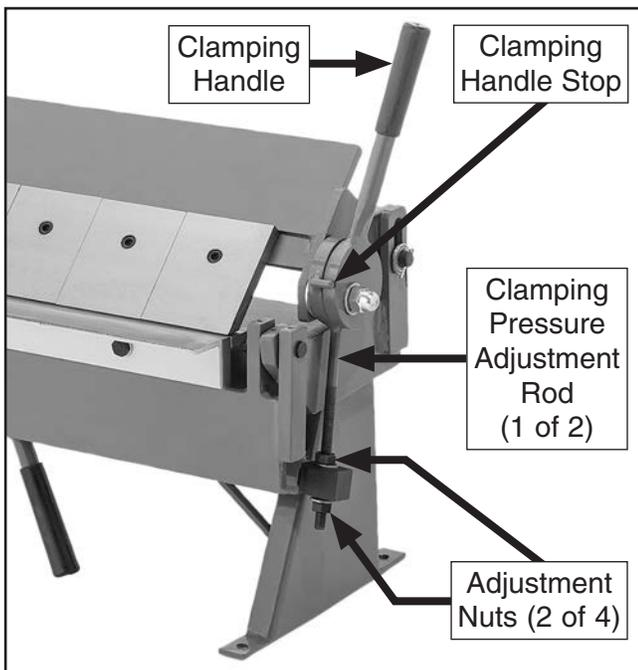

Figure 16. Locations of clamping components.
Clamping pressure must be properly adjusted for different workpiece thicknesses. The ideal pressure will have medium resistance at the clamping handles, and will lock the workpiece into position easily—much like a pair of Vice-Grips®. Pressure is adjusted by rotating the adjustment nuts on the clamping pressure adjustment rods (see **Figure 16**). These are located on both ends of the pan and box brake.
2. Loosen adjustment nuts (see **Figure 16**) and turn both sets up or down until clamping handles are in 10 and 2 o'clock position when clamping fingers just touch workpiece.
Note: *Proper clamping pressure is achieved when the clamping handle "snaps" (or locks) into position against handle stop (see **Figure 16**).*